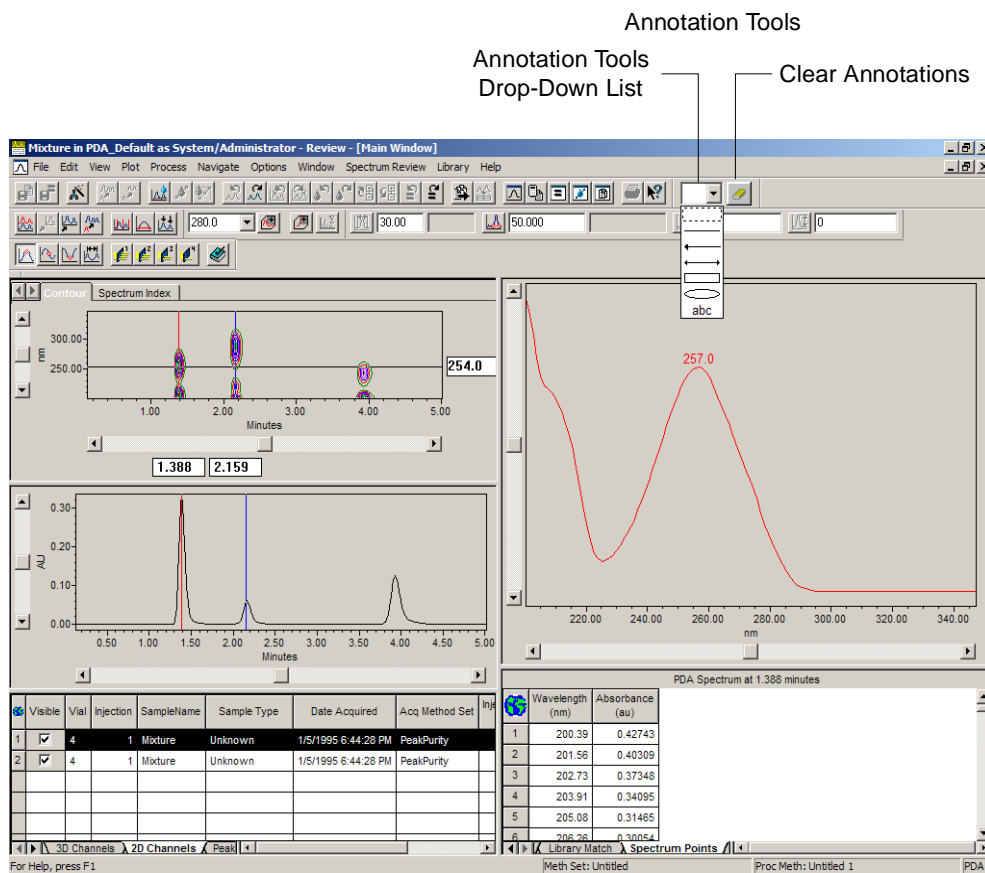

Figure 2-19 Annotation Tools
1. With the PDA data displayed in Review, select ← (arrow tool) from the Annotation Tools list (Figure 2-19).